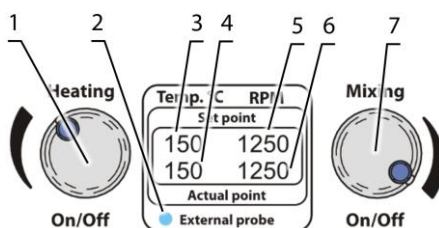

Figure 3. MSH-300i control panel3
- On the upper line, **Set point**: temperature mode indication (OFF) or previously set temperature (fig. 3/3) of a heating surface or liquid (if external probe is activated) and set speed of magnetic stirring element (fig. 3/5).
- On the lower line, **Actual point**: current temperature (fig. 3/4) of the surface or liquid (if the external probe is active) and current speed (fig. 3/6).
5.3.5 **Plate temperature control.** Using the **Heating** knob (fig. 3/1), switch the heating **On** and set the required temperature (in the 30 to 330°C range).
**Note.** The heating will be switched off when the actual temperature exceeds the set temperature over 30°C. Actual temperature readings (fig. 3/4) start flashing until set temperature (fig. 3/3) is reached.
- The external probe indicator lights up on the control panel (fig. 3/2), showing that the temperature control is now performed via the external probe.
- Using the **Heating** knob (fig. 3/1), switch the heating on and set the required liquid temperature (in the 20°C to 150°C range).
**Caution!** The indicator lamp (fig. 3/2) flashing shows that the external probe is not dipped into the liquid and the plate temperature has reached its maximum of 340°C. This can cause an emergency situation, so dip the external probe in-to liquid or switch off the unit.
5.3.7 **Mixing speed control.** Using the **Mixing** knob (fig. 3/7) switch the mixing mode on and set the required speed (100–1250 rpm range).